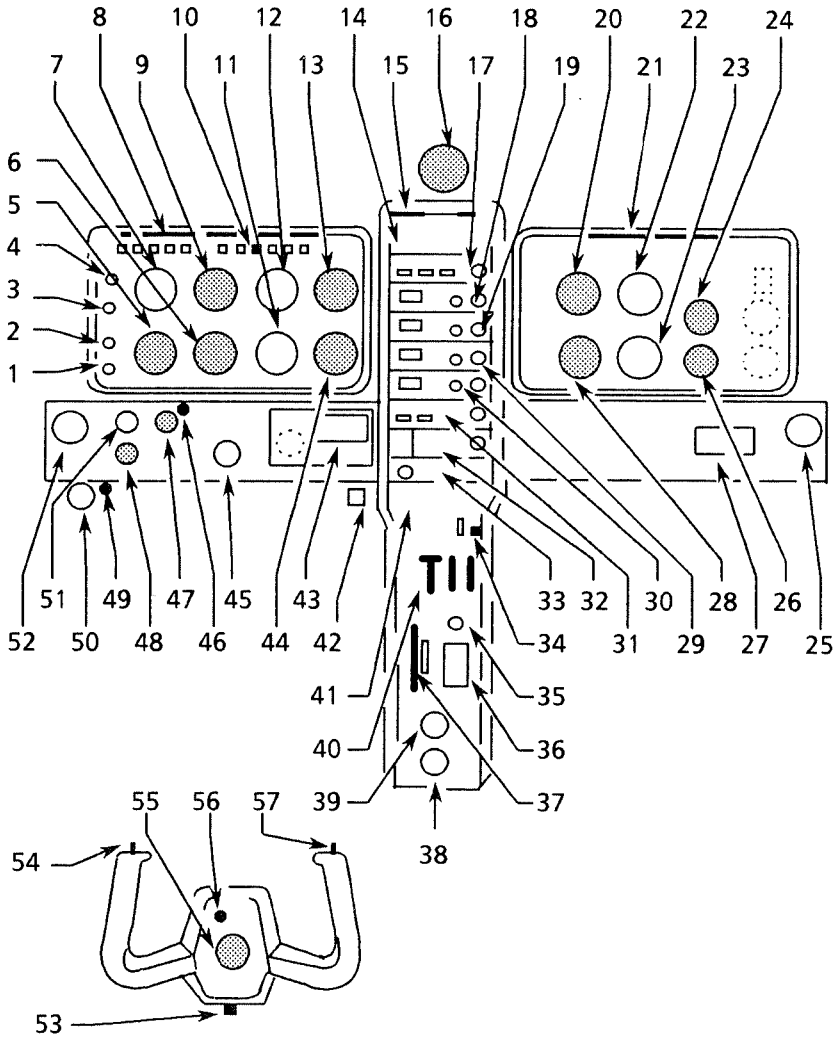

Figure 9.1.3 - EXAMPLE OF INSTRUMENT PANEL « IFR »
- See Figure 9.1.3.
- Front overhead lights controlled by turning post lights, modifiable by "Emergency" control. See Figure 9.1.3.